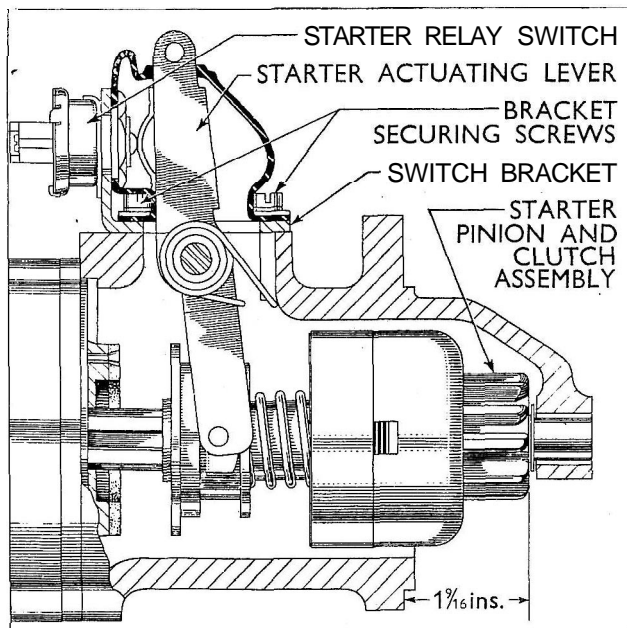

Fig. 254
- 6 Depress the actuating lever until the distance from the rear face of the pinion teeth to the starter motor mounting flange is $1\frac{9}{16}$ in. (See Fig. 254.) Adjust the relay switch plate until the contacts are just closed with the pinion at this setting. Securely tighten the retaining screws. Check that the contacts are closed by means of a battery and bulb.